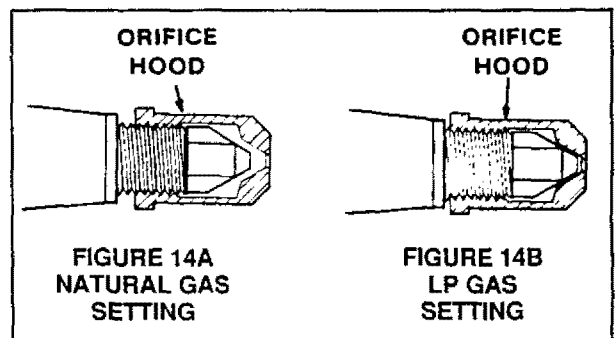
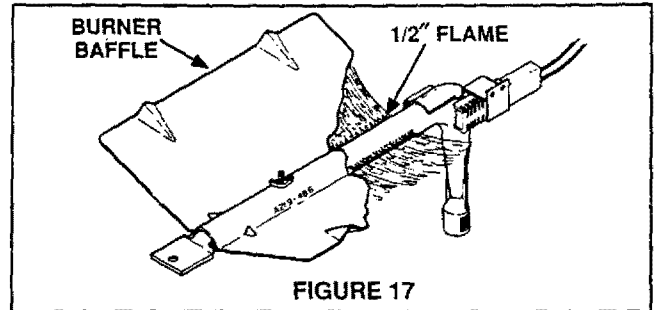
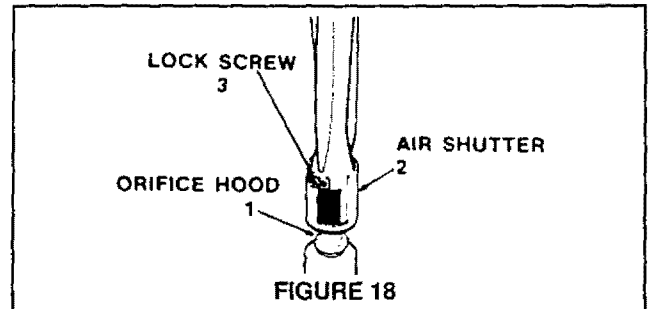

FIGURE 14A
FIGURE 17
FIGURE 18
- b. On ranges, use the 1/2" open end wrench to tighten the oven orifice hood (1-figure 18) approximately two complete turns clockwise TO THE CLOSED POSITION. See figure 14B.
- b. On ranges, use the 1/2" open end wrench to loosen the oven orifice hood (1-figure 18) approximately two complete turns counter-clockwise until the flames on the burner do not increase in length. See figure 14A.
The approximate length of the distinct inner blue flame of the oven burner is 1/2 inch (figure 17). Remove the burner baffle to adjust the burner flame with the air shutter. The air shutter (figure 18) should be approximately 2/3 open for natural gas and approximately full open on LP gas. If the oven burner flame is yellow, open the air shutter until it is distinct and blue. If the oven burner flame is distinct and blue but lifting, close the air shutter until the lifting stops.